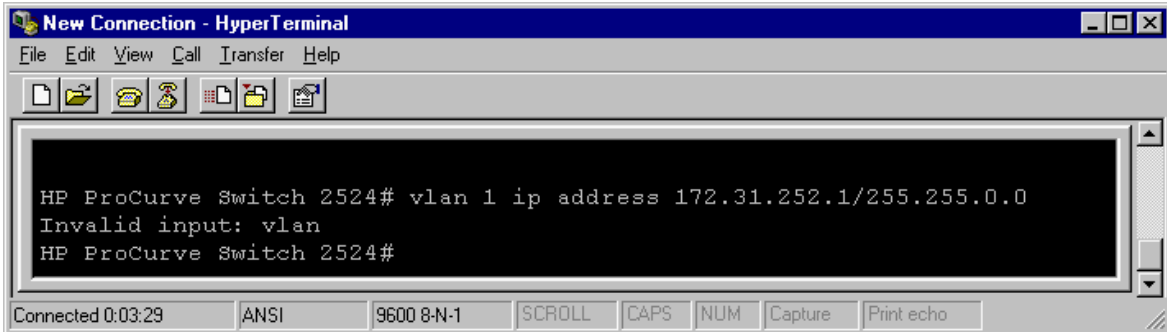

Figure 5-44 Invalid input message
- Invalid Input: vlan (see Figure 5-44). You are not in configuration mode, type **config** at the command prompt to enter into configuration mode.